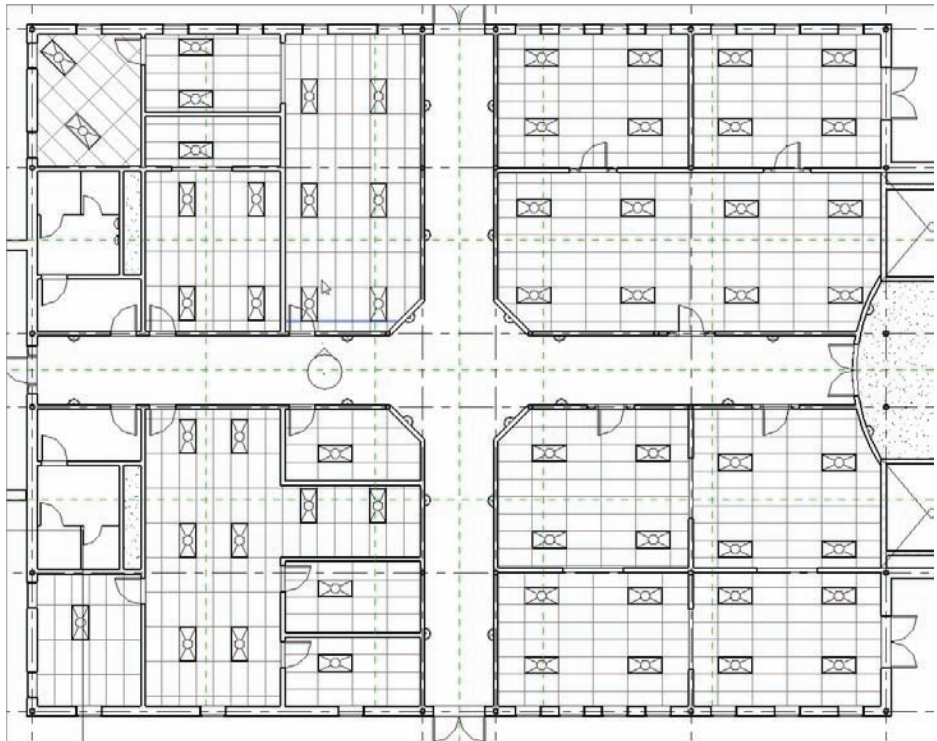

FIGURE 9.50 Copying the scribe to the other hallway walls
6. Add scribes to the walls of the hallways as appropriate, as shown in Figure 9.50.